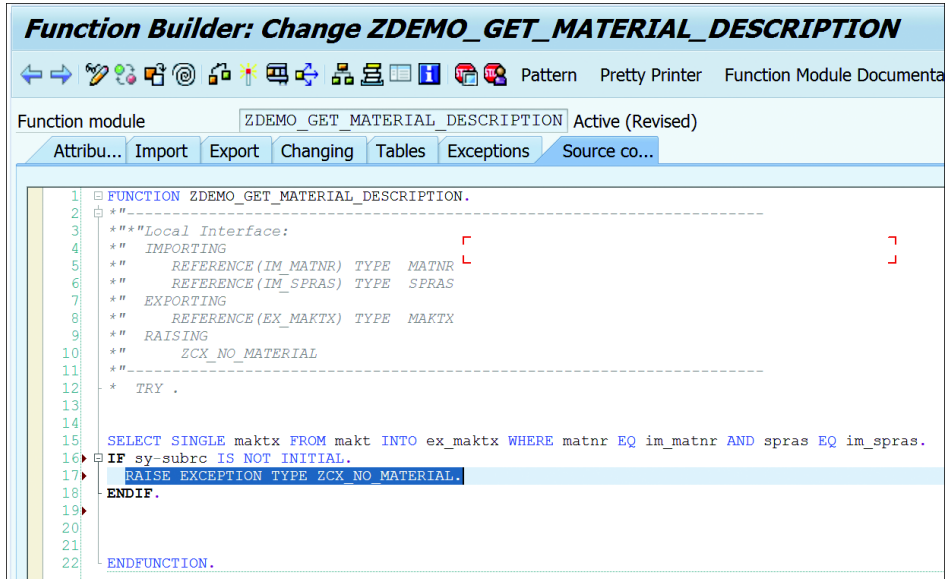

Figure 9.18 Raising Exception for ZDEMO_GET_MATERIAL_DESCRIPTION
7. The exception can be raised within the function module using the syntax `RAISE EXCEPTION TYPE ZCX_NO_MATERIAL`, as shown in Figure 9.18.